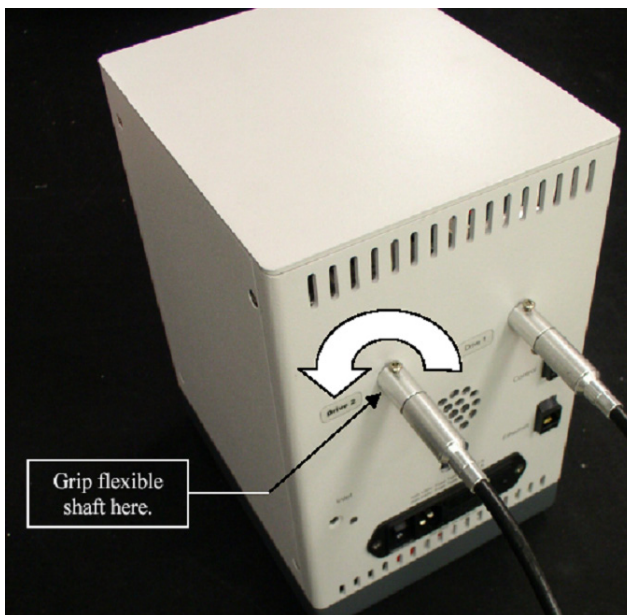

Figure 8 Flexible shaft rotational direction for AutoX probes
Rotate the flexible shaft in the direction indicated in Figure 8.
- Grip the flexible shaft where it attaches to the motor module. For AutoX-type probes, rotate the knob in the direction, until you feel the tuning capacitor break free from the end, see Figure 8. There is no need to re-index this motor.